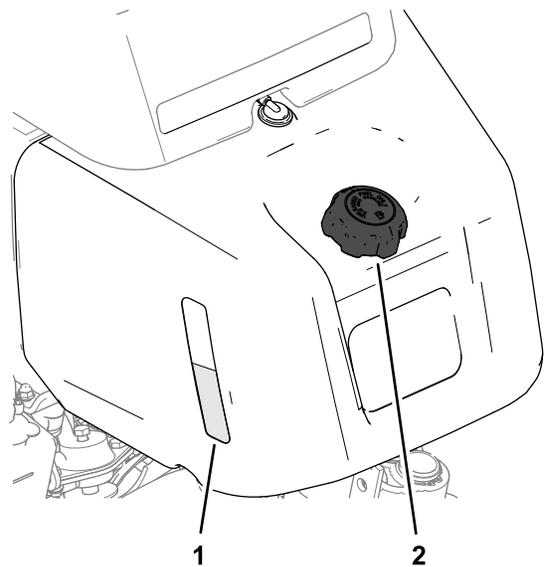
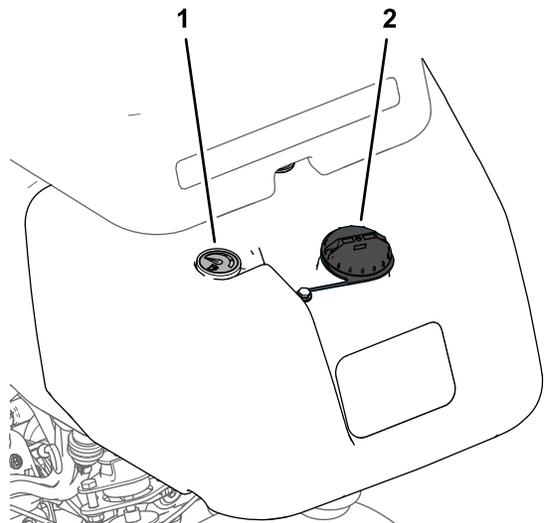

Figure 23
Figure 24
1. Clean around the fuel-tank cap and remove it (Figure 23 or Figure 24).